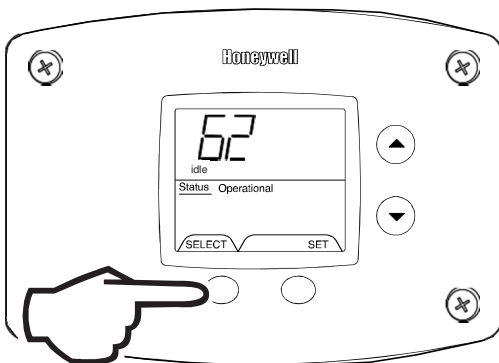

Fig. 68
5. Press the 'Select' button for code index #9 to view if there are any code numbers (Fig. 68).